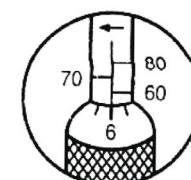

Fig 2
- Turn the handle clockwise until the 6Nm graduation on the bevelled edge of the handle is aligned with the vertical line on the housing. (Fig 2)